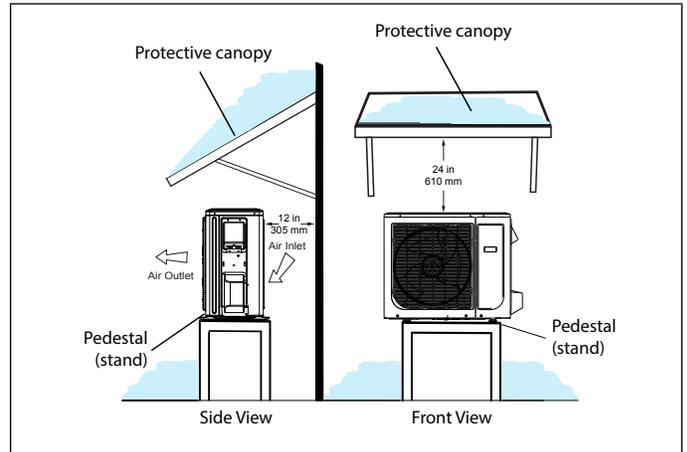

Figure 9. Outdoor Unit on Pedestal (Stand) and Protective Canopy
- If the outdoor unit is subjected to prolong exposure to direct sunlight with temperatures over 100°F (38°C) a canopy is suggested as illustrated in “Figure 9. Outdoor Unit on Pedestal (Stand) and Protective Canopy” or “Figure 14. Dog House-Style Shelter” on page 10.
or into unit. Construct a canopy as illustrated in “Figure 9. Outdoor Unit on Pedestal (Stand) and Protective Canopy”.